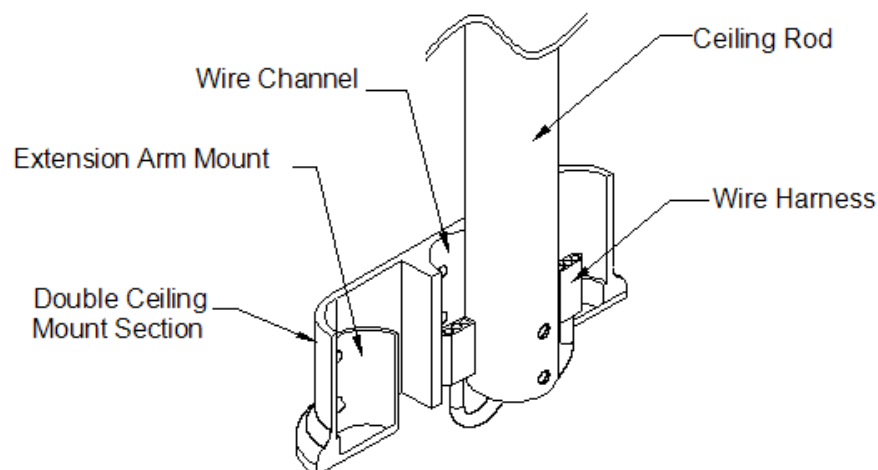
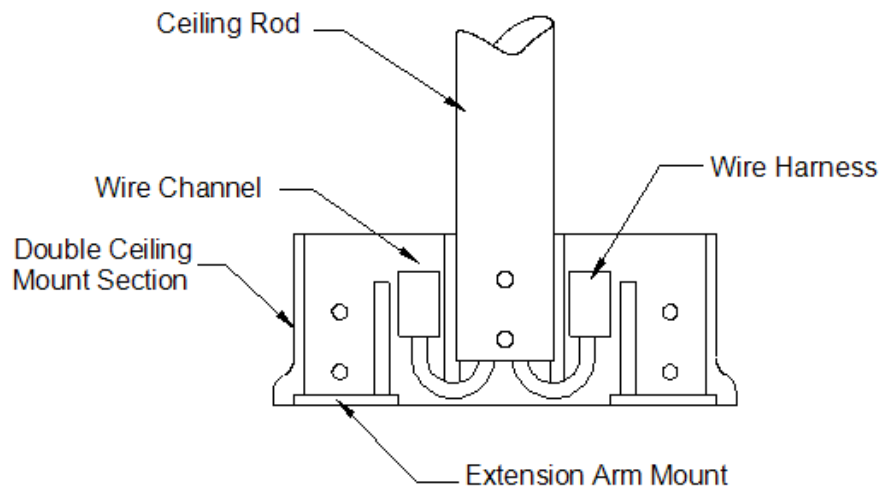

Figure 10. Wire Harness Positioning
Figure 11. Wire Channel
- Bring one section of the double ceiling mount casting to the ceiling rod and fasten it to the rod with the 2" long bolts (P/N 0001311) and cap nuts (P/N 0001312). Tighten the cap nuts just enough to hold the section in place; they do not need to be fully tightened at this time. Bring an arm assembly to the double mount section and fasten the transformer housing into the extension arm mounting cavity with two $\frac{3}{8}$ " long mounting screws (P/N 0001291). Install the other arm assembly to the section with two more $\frac{3}{8}$ " long screws. Route the wire and Molex connector from the ceiling rod into the wire channel as shown in "Figure 10. Wire Harness Positioning" and "Figure 11. Wire Channel". Plug the connector at the end of each arm assembly to the mating Molex connector from the wire harness. Place each set of wires within the channel area.